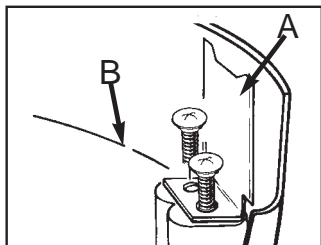

Fig. 3-2
1. Remove cutter knife (A) from debris shield (B) . (Fig. 3-2)
1. Remueva la navaja (A) de la guarda protectora (B) . (Fig. 3-2)